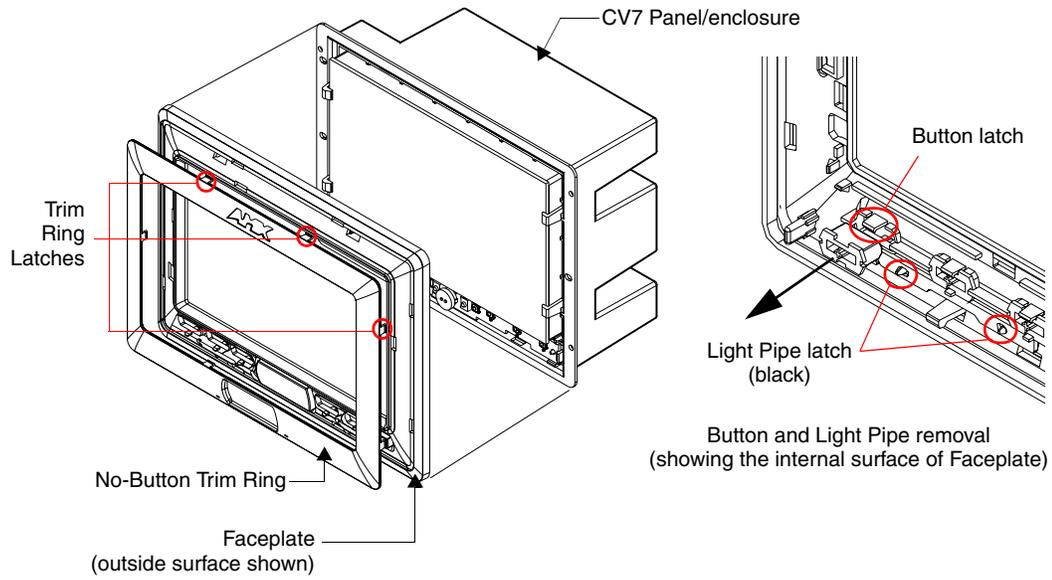

FIG. 32 Removing the No-Button Trim Ring
4. Gently tug along the edges of the No-Button Trim Ring and work your way around the edges to remove it from the Faceplate (FIG. 32).
5. From along the internal surface of the Faceplate, install the six buttons by firmly inserting them into the button openings until the Button latch secures the button in place (FIG. 32).